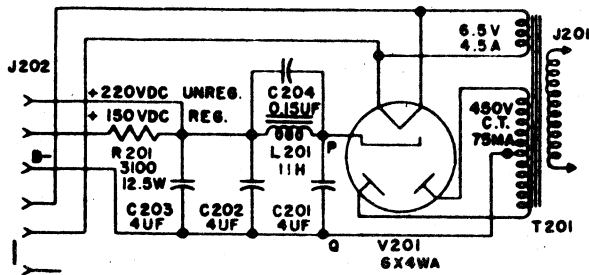

Figure 2-12. Simplified Schematic Diagram of the Power Supply PP-977/URM-25D
(See figure 2-12).
a. The plate supply voltage derived from the high voltage secondary and rectifier tubes (points "PQ" on figure 2-12) is approximately 220 volts DC and must be reduced to the required 150 volts DC regulated supply for tubes V101 and V103. This voltage drop is achieved by the DC series dropping resistor (R201). A pi filter network consisting of a choke (L201) and three 4 microfarad capacitors (C201, C202, C203) is provided as a ripple filter. The two capacitors (C202, C203) are connected in parallel to increase the effective capacitance. A single 8 microfarad capacitor (C204) is inserted in parallel with L201 to form a 120 cycle resonant filter. This resonant filter lowers the 120 cycle power supply hum level.
tically constant. If the supply voltage (points "PQ" on figure 2-12) drops, the voltage across the glow tube (V108) would tend to drop. However, the gas in the glow tube deionizes slightly and less current passes through the tube. The current passing through the series DC dropping resistor (R201) is also decreased by the amount of this current decrease in the glow tube. This would develop sufficiently smaller voltage drops across the series DC resistor to maintain the required stable 150 volts drop across the glow tube. A rise in supply voltage is similarly compensated for.